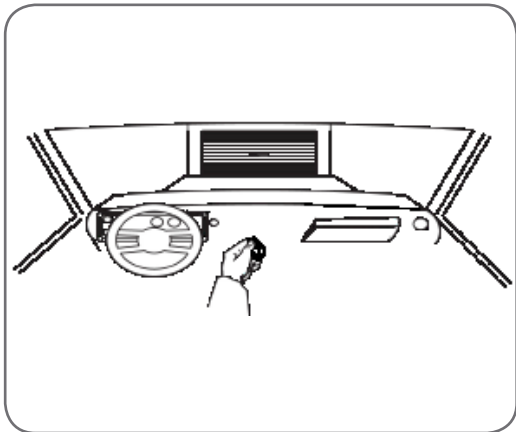

Fig.38
- If you are in a vehicle you should aim the remote control transmitter through your windscreen. If your remote control transmitter has a visor clip, it should be secured to the visor so that when the remote control transmitter is operated it is transmitting through the vehicle windscreen (Fig.38).